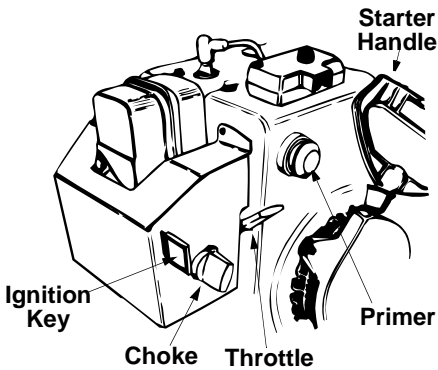

Figure 20
The throttle control is located on the engine. It regulates the speed of the engine. See Figure 20.
4. Move throttle control up to FAST position. Insert ignition key into slot. See Figure 20. Be certain it snaps into place. Do not turn key.
2. Move throttle control up to FAST position. Insert ignition key into slot. Refer to Figure 20. Be certain it snaps into place. **Do not** turn key.
4. Push primer button two or three times. Refer to Figure 20. If engine is warm, push primer button once only.
5. Grasp starter handle (refer to Figure 20) and pull rope out slowly, until it pulls slightly harder. Let rope rewind slowly.